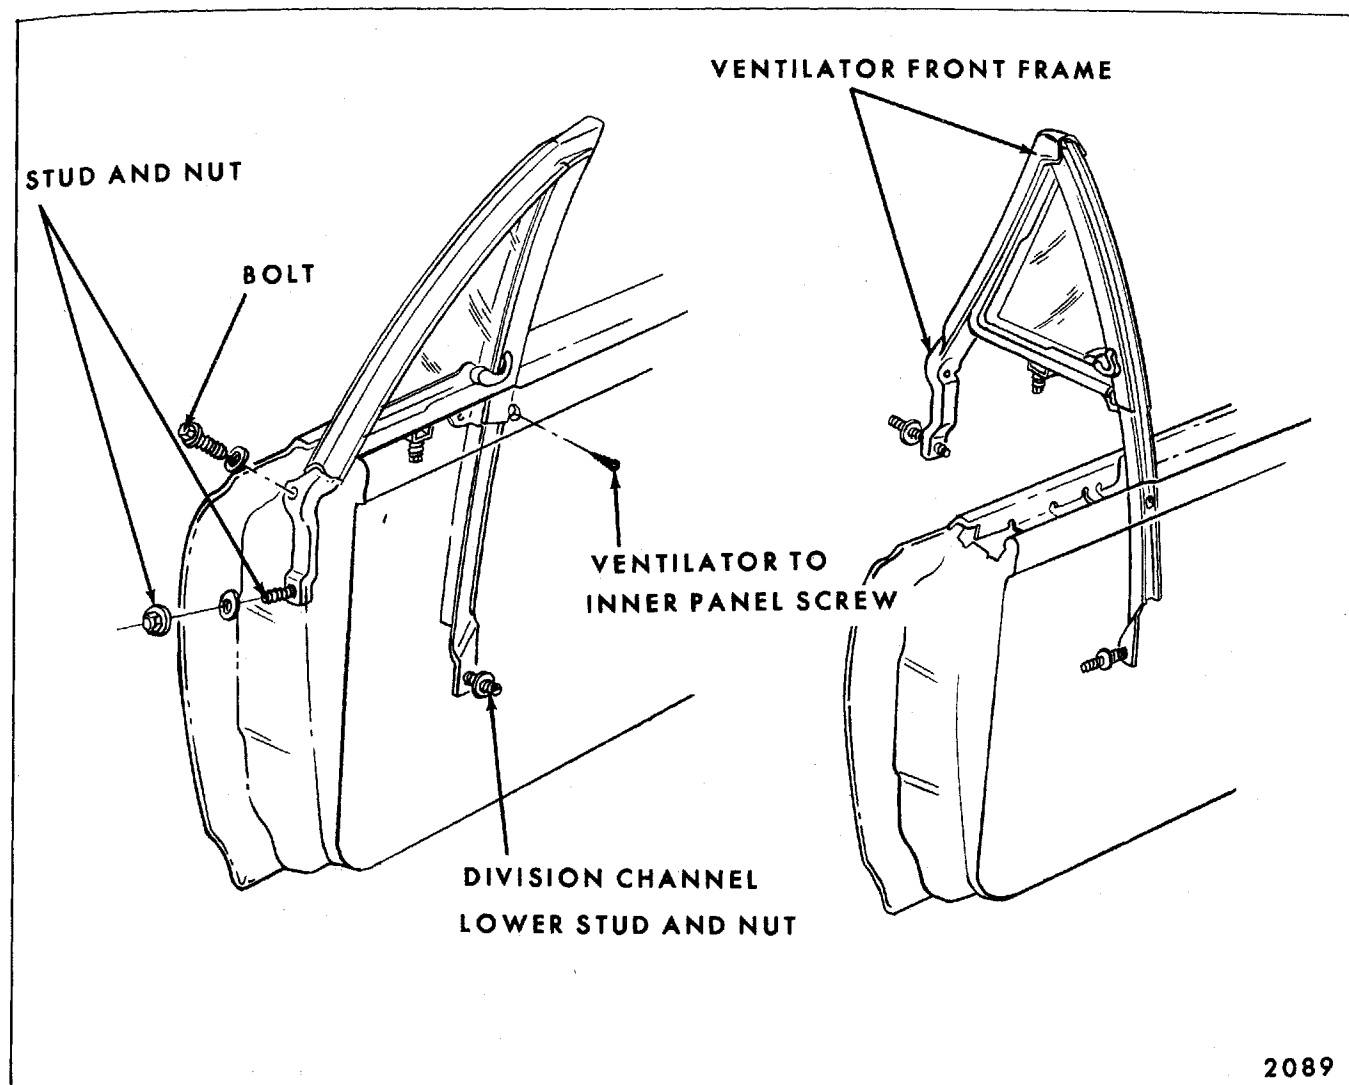

Fig. 7-71—Front Door Ventilator Removal - "A" Style Shown - "X & Z" Similar
3. Remove ventilator division channel lower adjusting stud nut and ventilator to door inner panel attaching screw(s) (See Fig. 7-71).
6. On "A & Z" Body Styles, on door hinge pillar, remove ventilator frame lower attaching bolt, ventilator front frame attaching screw(s) and ventilator frame lower adjusting stud nut (see Fig. 7-71).
8. Push ventilator lower adjusting stud free of inner panel and rotate top edge of ventilator rearward until front frame clears hinge pillar (see Fig. 7-71).
9. Turn ventilator 90 degrees, as shown in Figure 7-71, and remove assembly from body.